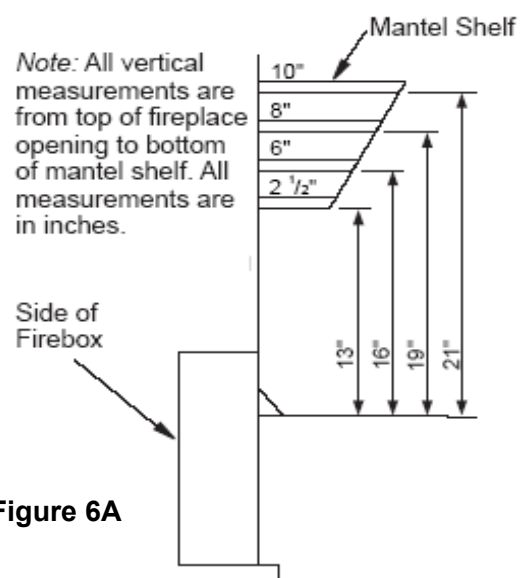

Figure 6A
**NOTICE:** Surface temperatures of adjacent walls and mantels become hot during operation. Walls and mantels above the firebox may become hot to the touch. If installed properly, these temperatures meet the requirement of the national product standard. Follow all minimum clearances shown in this manual. See Figure 6A